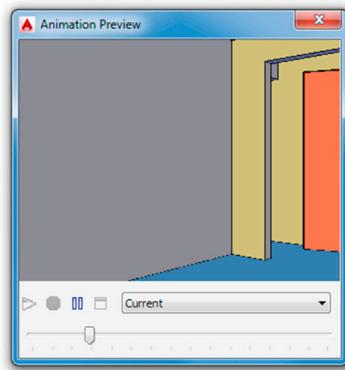

FIGURE 29.26 Animation Preview.
- Step 4.** Finally, select the Visual Style, Format, and Resolution and press Preview.... A preview window appears and runs through the animation, as seen in Fig. 29.26.